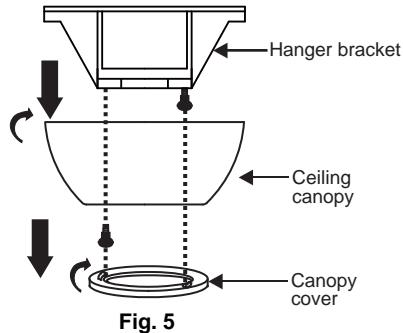

Fig. 5
Step 1. Remove the decorative canopy bottom cover from the canopy by turning the cover counter clockwise. (**Fig. 5**)
Step 2. Remove the ceiling mounting bracket from the canopy by removing (and save one of the two screws. Loosen the remaining screw by a half turn. (**Fig. 5**)